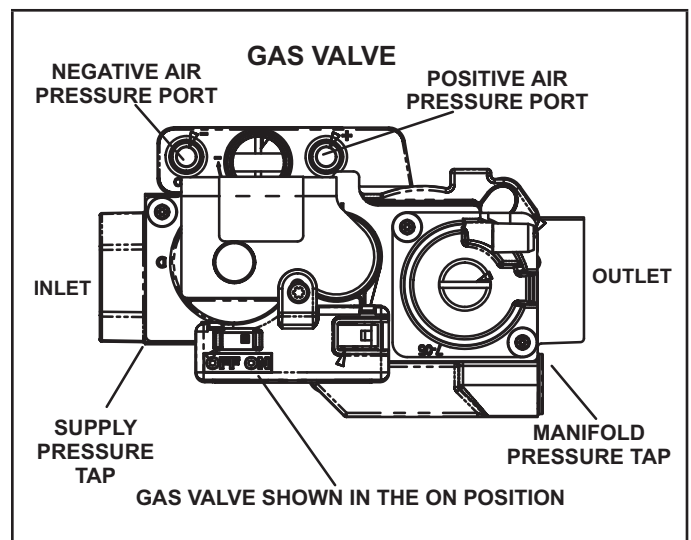

FIGURE 62
Gas Valve Operation (FIGURE 62)
- 6 - Move the gas valve switch to the OFF position. See FIGURE 62.
- 8 - Move gas valve switch to the ON position. See FIGURE 62. Do not force.